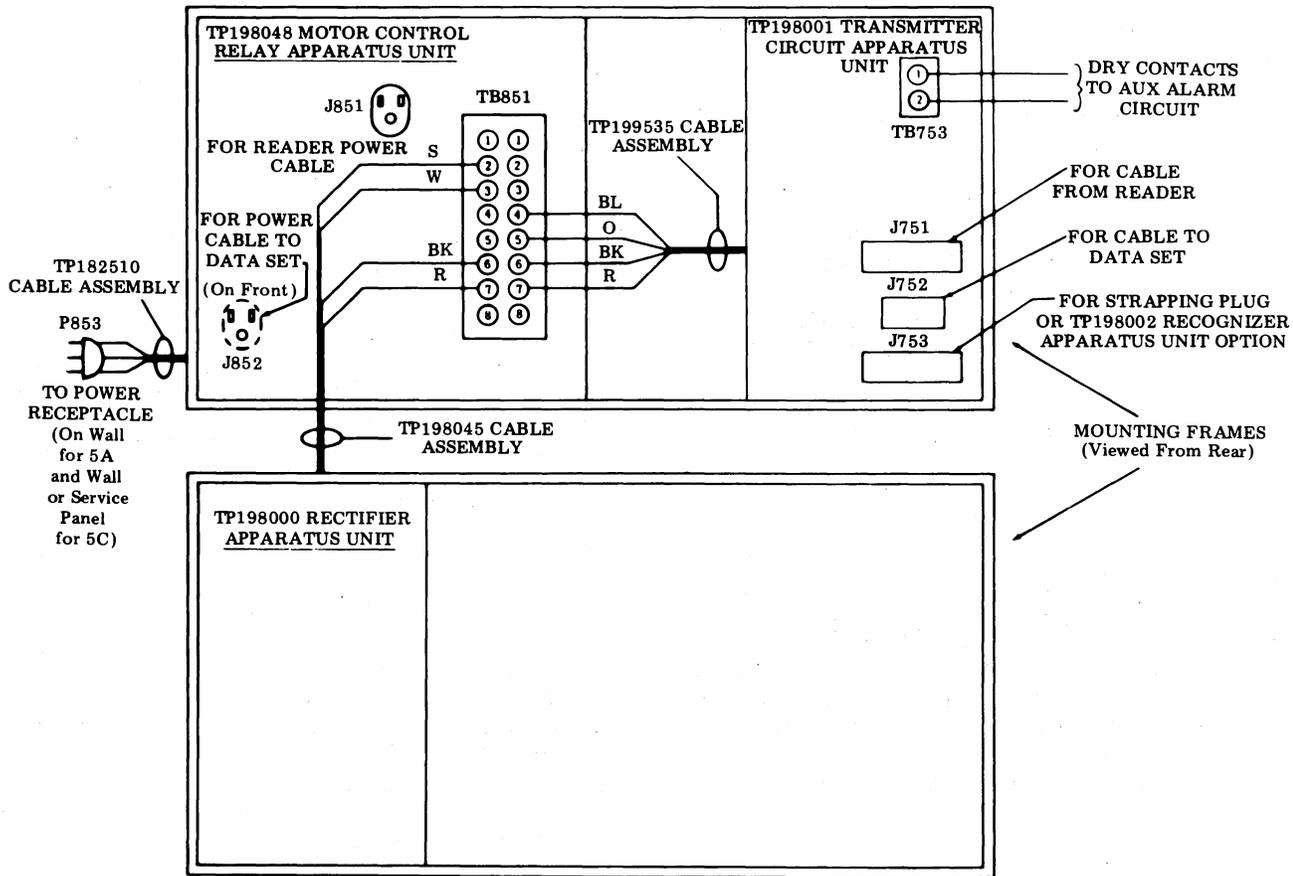

Figure 4 - 5A and 5C Tape Senders Apparatus Unit Connections
3.28 Connect the reader power cord into the tape reader outlet on the back of the motor control relay apparatus unit (Figure 4). Plug the multiple conductor cable from the tape
reader to the 37-pin receptacle (J751) on the transmitter apparatus unit (Figure 4). The plug is fitted with a slide latch locking device.
3.29 Make connection between the 25-pin receptacle J752 on the transmitter apparatus unit and the receptacle at the data set. Connect the power cord from the data set to the data set receptacle (J852) at the TP198048 motor control unit (Figure 4).